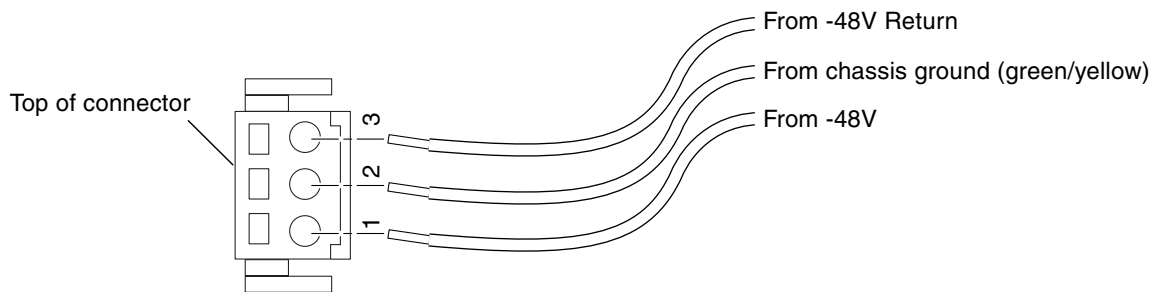

FIGURE 6-17 Assembling the Input Power Cable
7. Feed the exposed section of the appropriate wire into that hole in the input plug. **FIGURE 6-17** shows which wires should be inserted into each hole in the input plug.